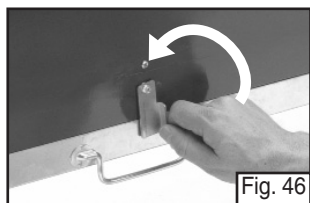

Fig. 46
- Unlock tab as shown. (Fig. 46)